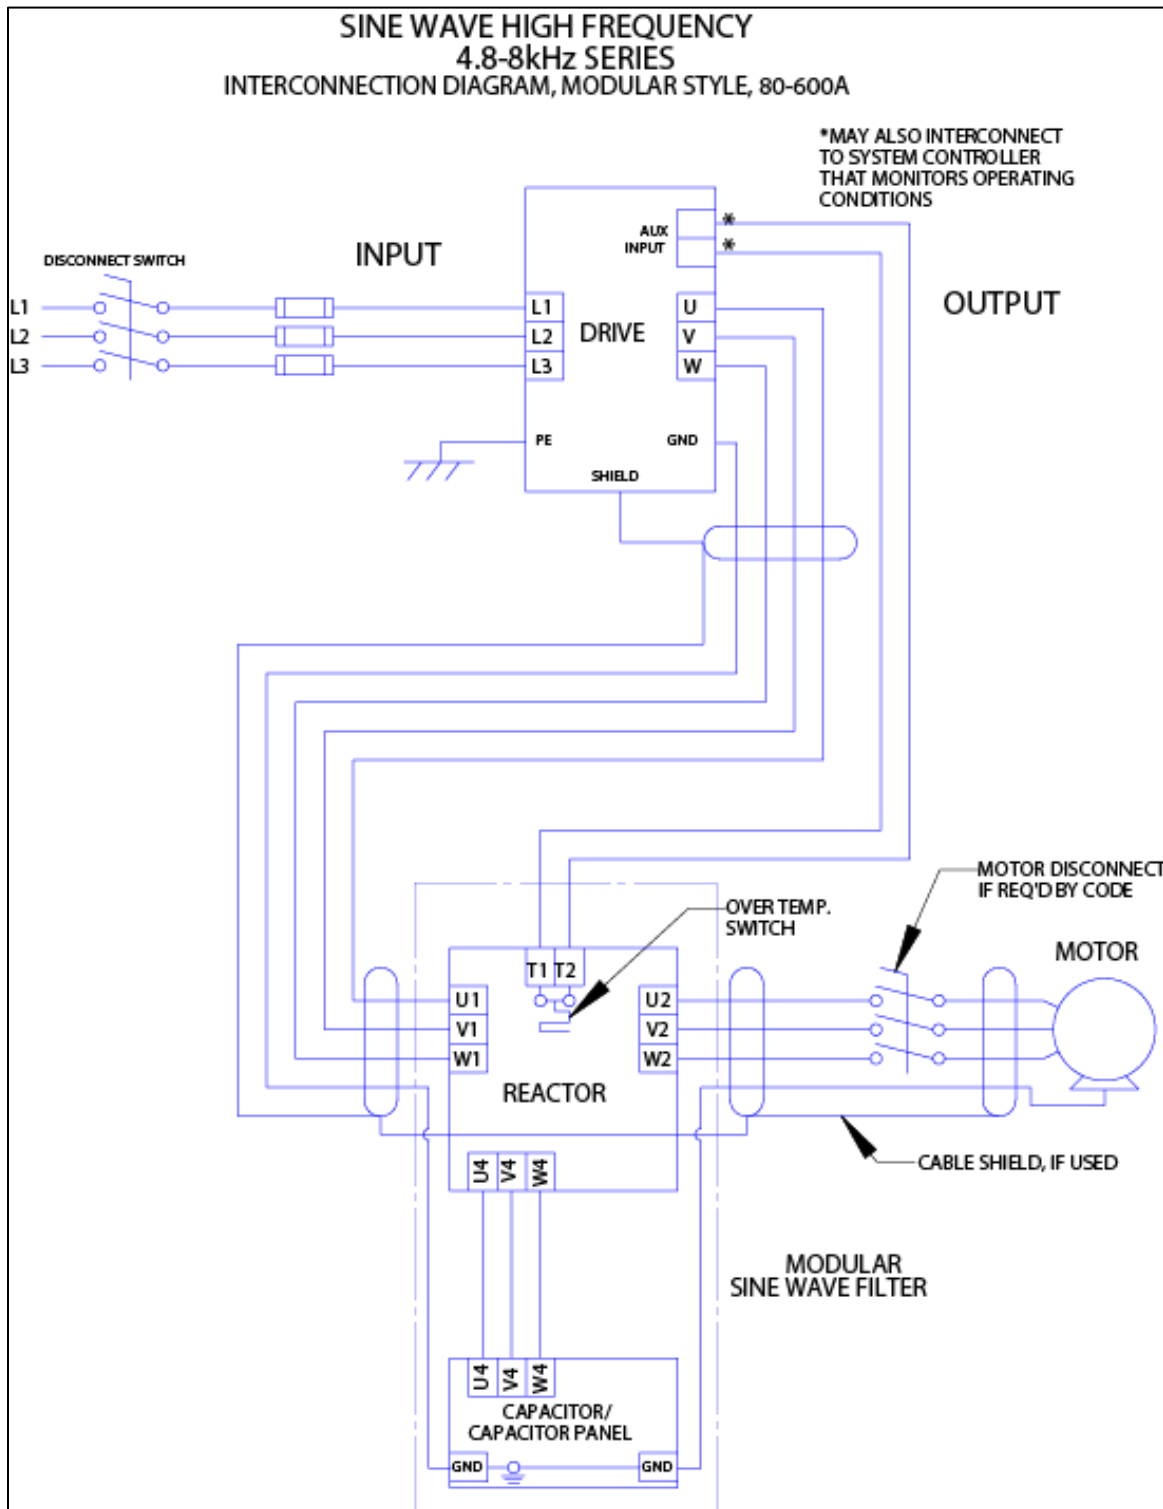

Figure 5-1: Modular Interconnection
- For panel mounted filter applications, interconnection between the filter, its power source, the cap-panels, and the drive is shown in Figure 5-1: Modular Interconnection (p15).